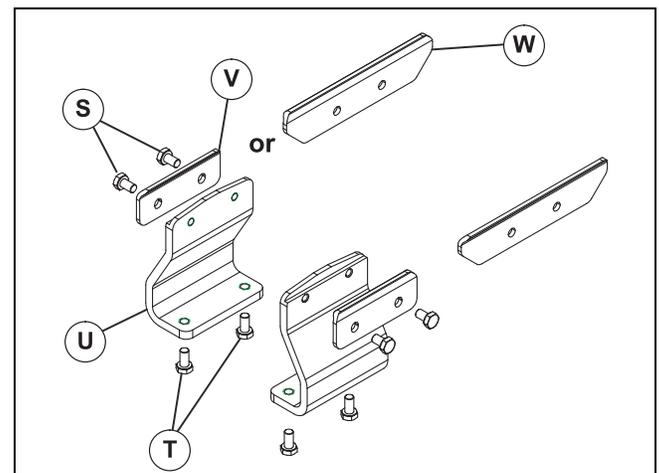
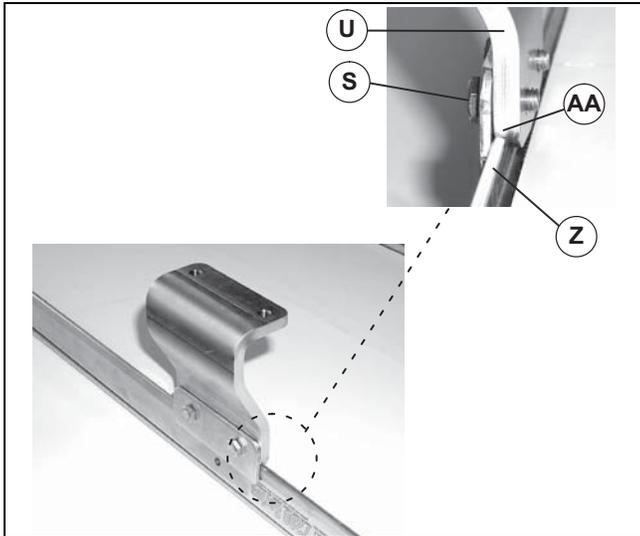

Figure 9
Figure 10
Conveyor may be mounted using mounting brackets as shown in Figure 9 and Figure 10 or directly to support stands. For direct support stand mounting, see stand manual.
1. Typical mounting bracket components (Figure 9).
2. Attach clamp plate (Figure 9, item V or W) to stand/conveyor ear mount bracket (U) with two screws (S). Do not tighten screws.
- Attach stand/conveyor ear mount bracket (Figure 10, item U) to bottom of conveyor (Z). Make sure notch (AA) on bracket straddles conveyor edge as shown. Snug-up two screws (S).